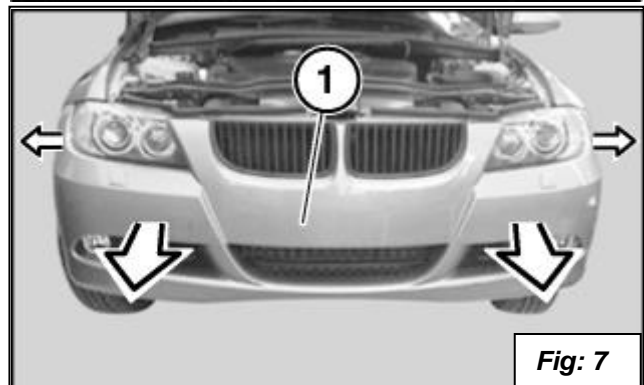

Fig: 7
11. Remove bumper trim (1) with the aid of a second person by pulling out at top slightly and forward. See **figure 7**.